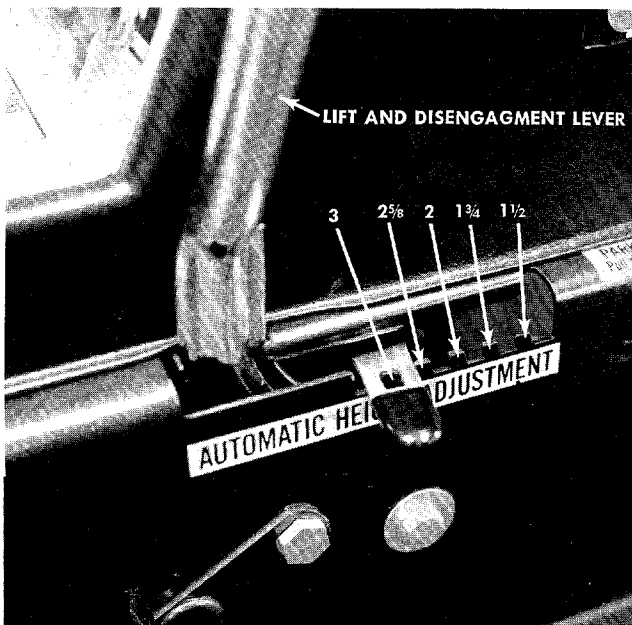
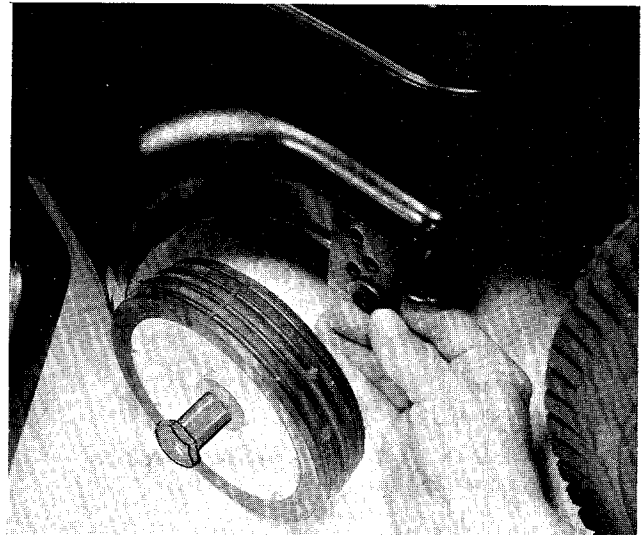

FIGURE 11. HEIGHT OF CUT SETTINGS
FIGURE 12. WHEEL HEIGHT ADJUSTER—25" DECK
The engine will not start unless the lift and disengagement lever is in the disengaged position. See figure 11.
Height Of Cut Stop. See figure 11. Lift the stop and set it at the desired cutting height. Allow the lift and disengagement lever to come forward to rest against the height of cut stop.
Wheel Height Adjuster. 25-inch cut. Remove the axle bolt and place it in the desired cutting position. See figure 12. Both wheels must be in the same relative position.
To set the cutting deck in the full float position: set the wheel height adjusters in the desired cutting height as indicated in figures 12 or 13. Set height of cut stop in the 1 1/2 position. See figure 11.
- Step 1. Place the lift and disengagement lever in the disengaged position. See figure 11.